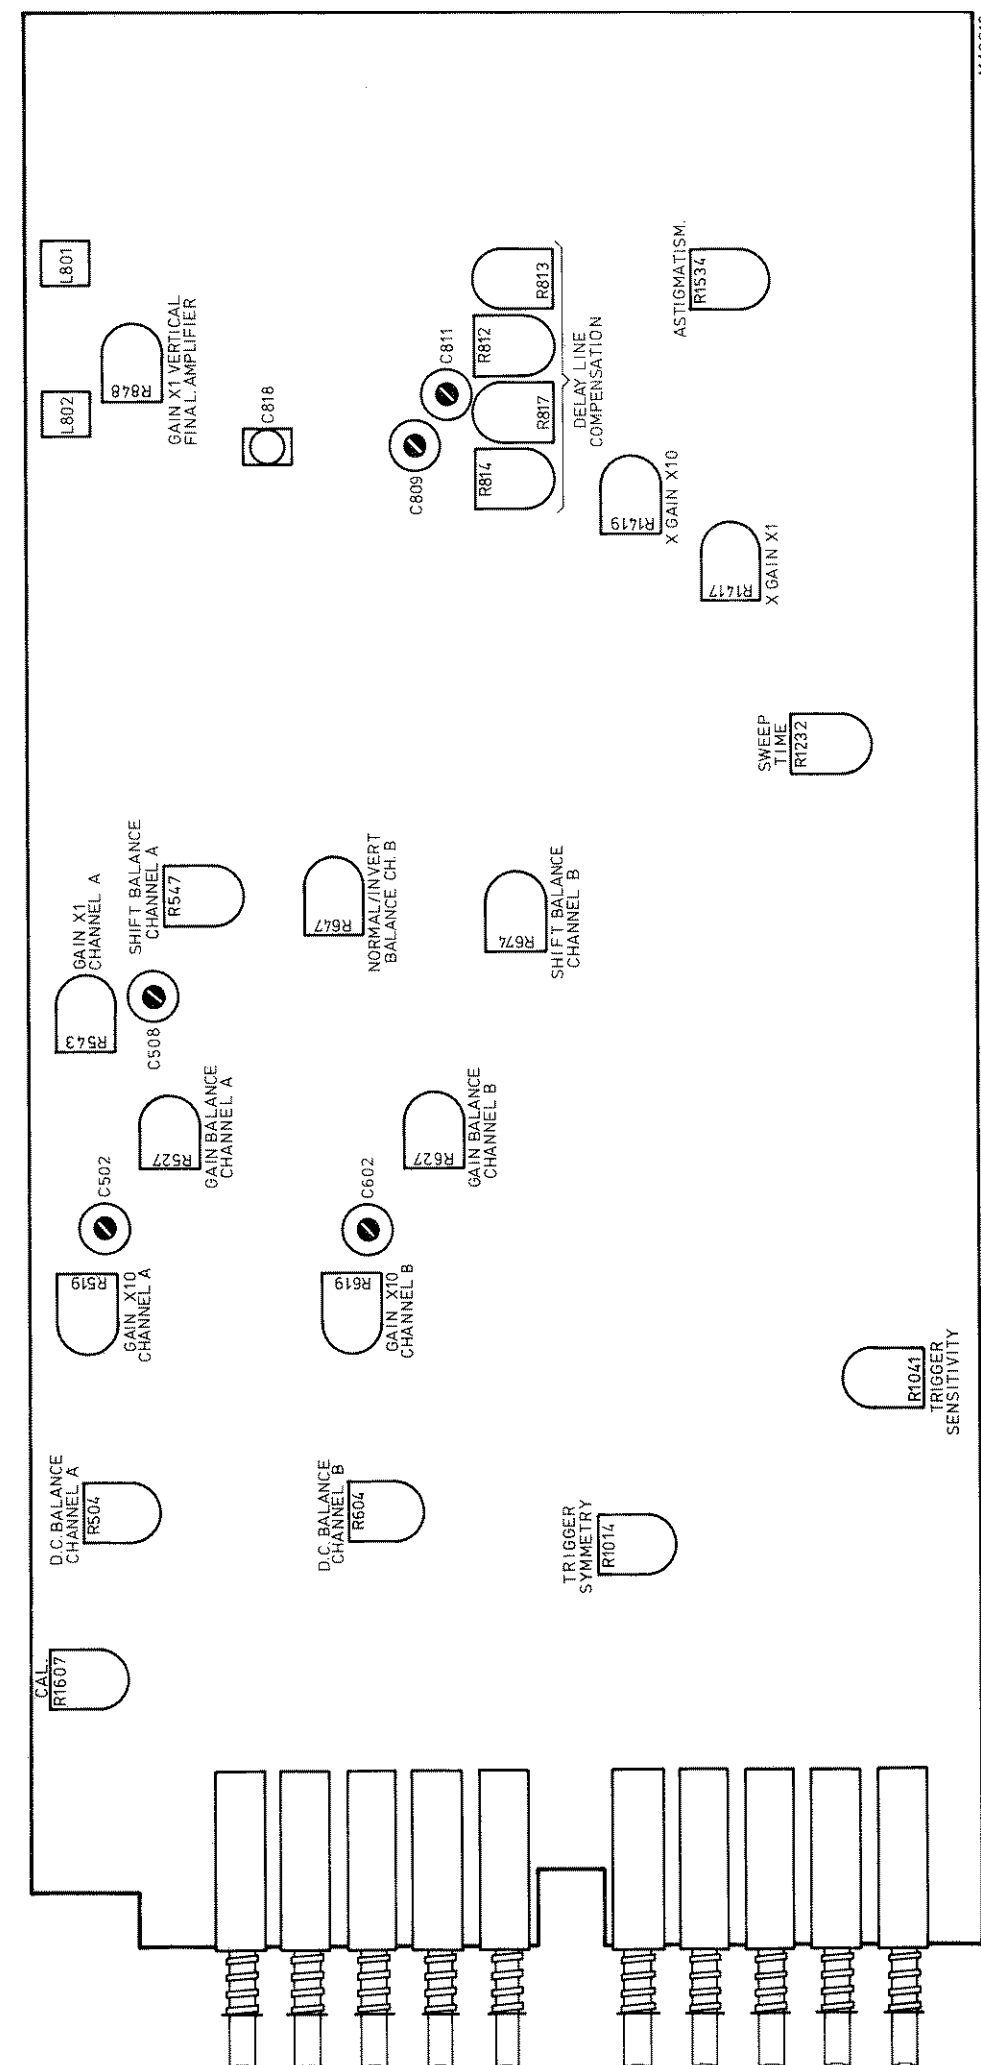

Fig. 3.17 Adjusting elements amplifier board
- Release input coupling switch S12 to (DC).
- Release input coupling switch S13 (0).
- Find the lowest possible input signal at which it is still possible to obtain a triggered trace with the aid of LEVEL potentiometer R5 and potentiometer R1041 (Fig. 3.17).
- Check that the voltage on the CAL output socket is 1.2 V \pm 1 % If necessary readjust potentiometer R1607 (Fig. 3.17).